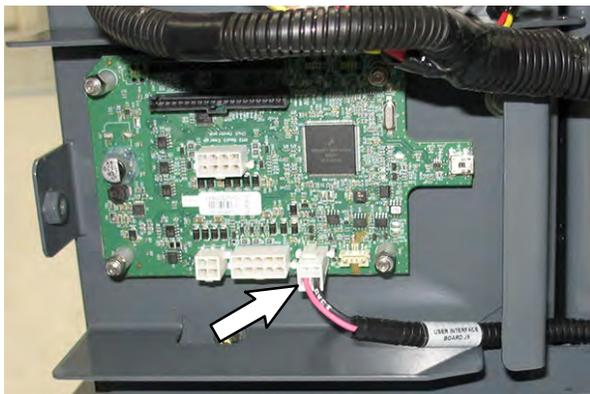

FIG. 22
13. Connect the leg electric harness (20) 4-pin connector to the communication board (13) J5 terminal. (Fig. 22)